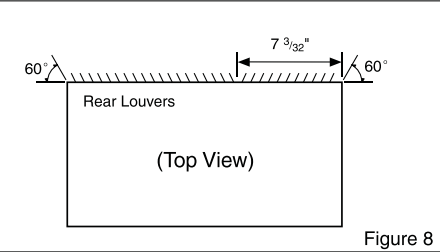

Figure 8
- 1** Redirect the louvers at the back of the wall sleeve to 60° angle as shown in the Figure 8. The use of pliers is recommended.